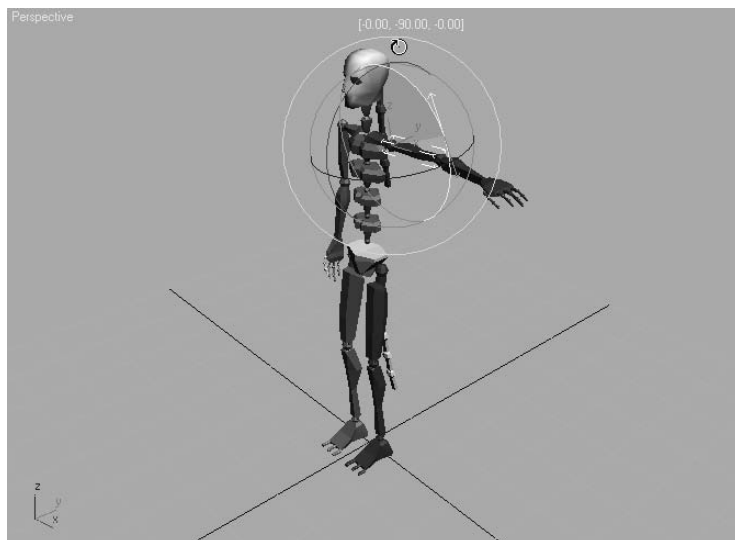

Figure 9.4
8. Place your cursor over the green Y-axis ring of the Rotate Transform gizmo and drag upward to rotate the upper arm upward, as shown in Figure 9.4. All of the pivot points for the biped elements will be placed at the top of the objects. For example, the upper arm pivots at the shoulder, the lower arm pivots at the elbow, and the hand pivots at the wrist. This is one of Character Studio's great time savers.